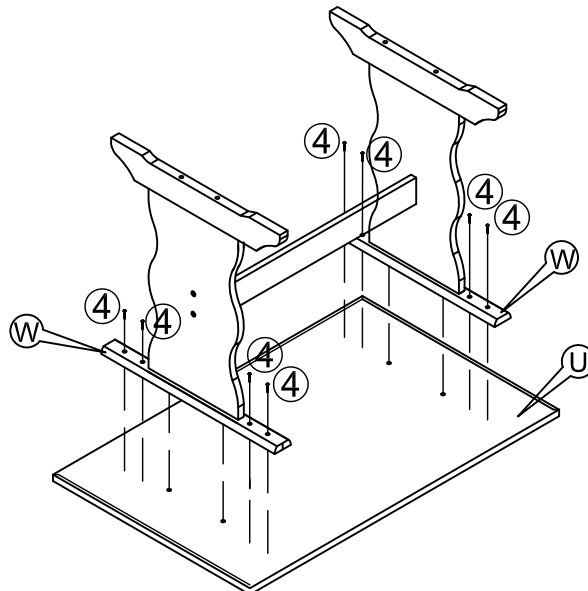

FIGURE 4
- 4.1 ATTACH ASSEMBLED LEGS TO TABLE TOP #U THROUGH FITTING WOOD DOWELS PRESENT IN UPPER SIDE OF TOP SUPPORTS #W INTO HOLES LOCATED UNDERNEATH OF TABLE TOP #U AS SHOWN IN FIGURE 4. IT SERVES AS GUIDE ENABLING YOU TO CONNECT THE LEGS IN CORRECT POSITION.
- 4.2 USING PRE-DRILLED HOLES AS GUIDE, SECURE CONNECTION WITH (08) SCREWS④DRIVEN WITH SCREW DRIVER AS SHOWN IN FIGURE 4.